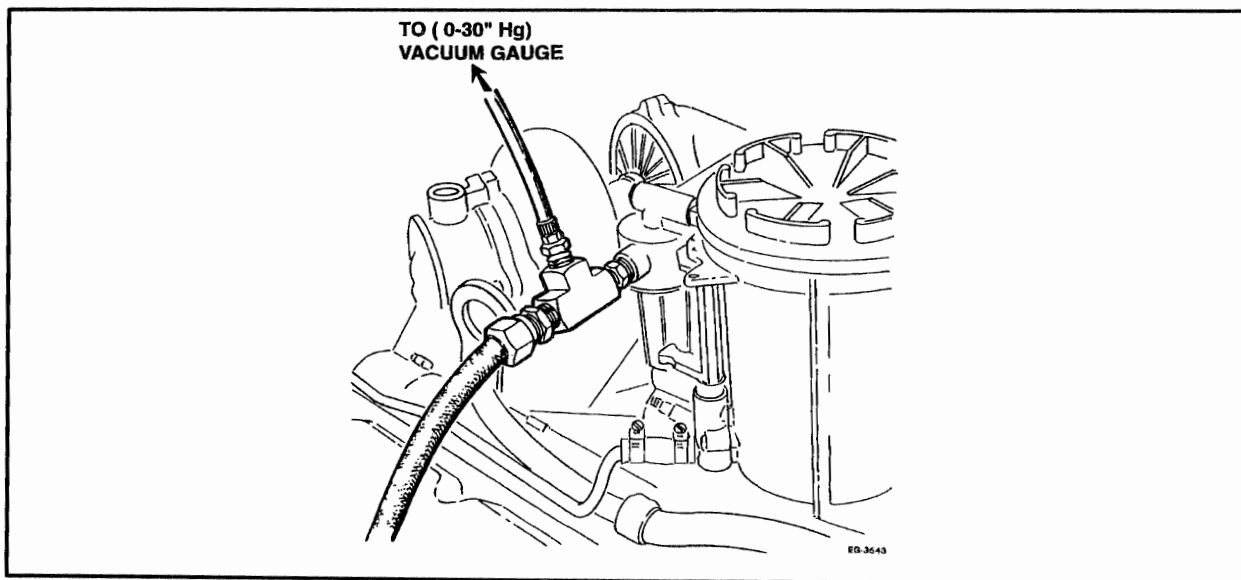

Figure 2.3-12. – Transfer Pump Restriction
1. Connect a tee between the fuel filter inlet and fuel supply line. (Figure 2.3-12.) Connect a line from the tee to the 0-30" Hg. vacuum gauge of the D-200 Pressure Test Kit (ZTSE-2239).